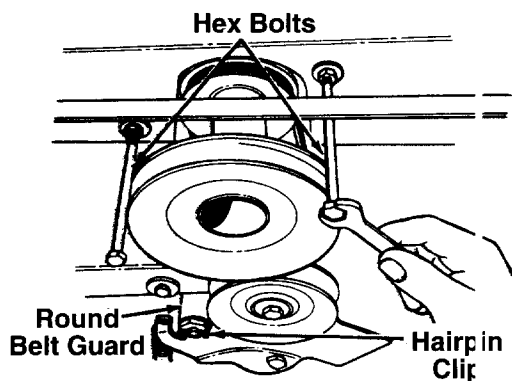

FIGURE 4.
1. **Models 1463834H and 146W834H:** Working beneath the tractor, remove the round belt guard from the idler by removing the hairpin clip. See figure 4. Remove the two hex bolts which act as belt keepers by the engine pulley.
9. **Models 1463834H and 146W834H:** Replace the round belt guard by the idler pulley (hex side down). Replace the hex bolts (belt keepers) by the engine pulley. Refer to figure 4.